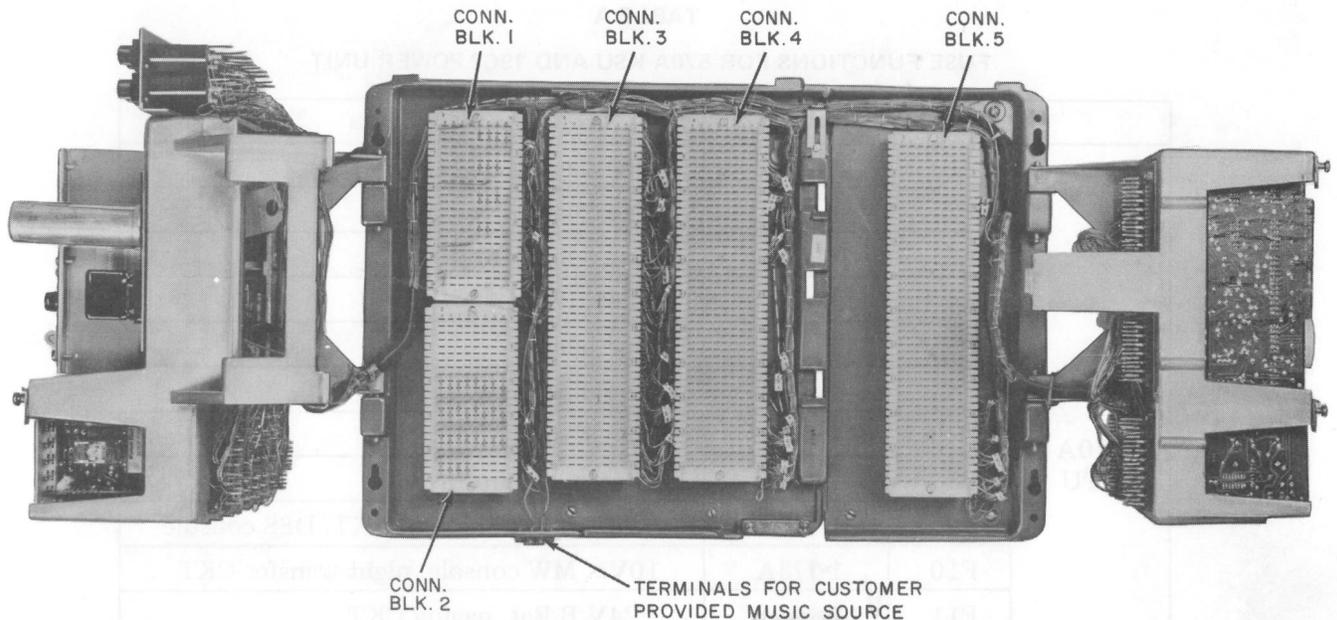

Fig. 3—570A KSU (Carriers Open)
2.04 All wiring connections are made on the connecting blocks located in the KTU (Fig. 3) with the exception of the terminal block for connecting the customer-provided music source. Since all stations pick up all lines on the same button at each telephone set, all equipment connections are factory-wired to the connecting blocks.
- 2.08** Five 66-type connecting blocks are mounted in the KSU (Fig. 3).